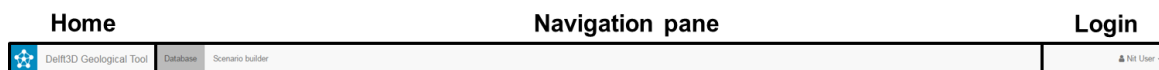

Figure 2.5 The Delft3D-GT menu bar with the 'Home' button, navigation pane and login menu
The Delft3D-GT GUI has two main components that are accessible via the menu bar (Figure 2.5): (1) the database with a search facility, an overview of available scenarios/runs in the database and run details and (2) the scenario builder for the creation of new scenarios/runs. The subsequent sections provide an overview of the main features of the database (Section 2.4.1) and scenario builder (Section 2.4.2). A detailed description of all GUI functionality is provided in Chapter 3.